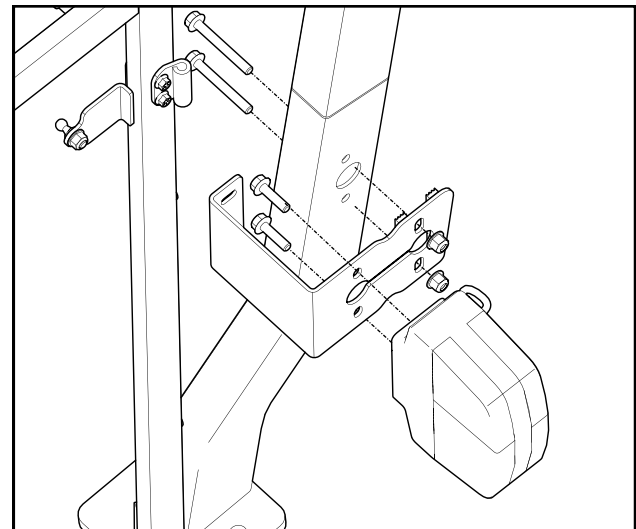

Fig. 8.3 (Folding ROPS Brackets)
8.3 Install the left ROPS bracket to the folding ROPS as shown. Repeat on the right side. Tighten all hardware. See Fig. 8.3